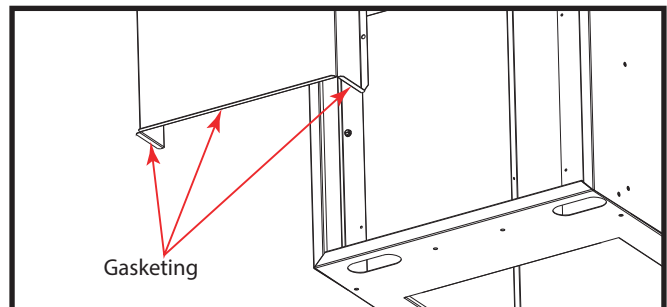

Figure 6. Pressure Box Gasketing
1. Add gasketing to the bottom side flange of the pressure box to insure a proper seal. (see Figure 6)